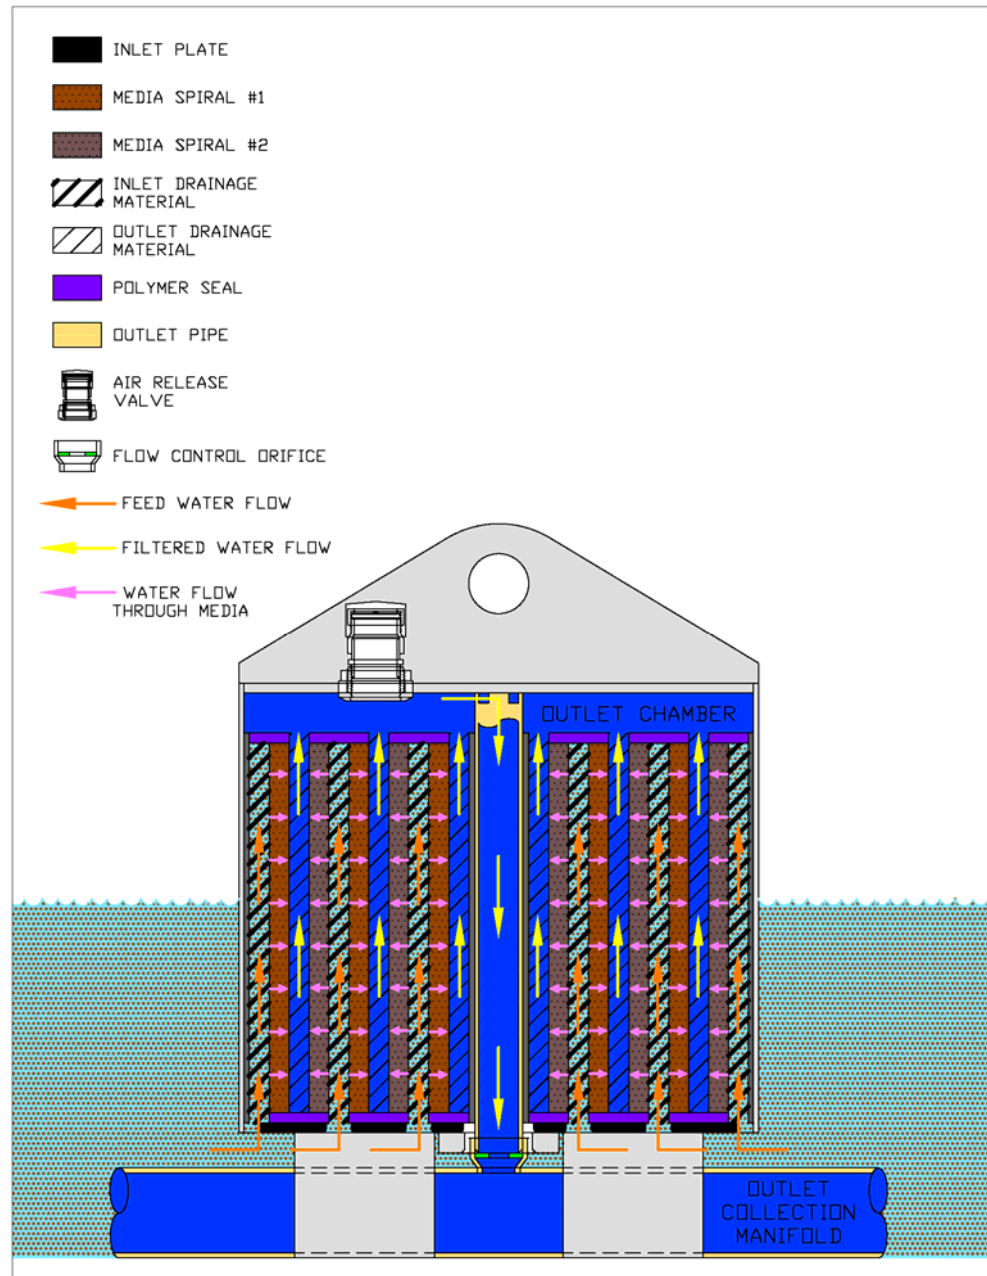

Figure A-3: Siphon filtration
- C. Siphon Filtration: After the water level in the vault falls below the top of the filter cartridge, a siphon is established and water will continue to flow (Figure A-3) until the siphon is broken. During siphon the water level in the vault will decrease until it reaches the base of the BFC; air then enters the filter cartridge and breaks the siphon. This cause's filtration flow to stop and hydrodynamic backwash begins.